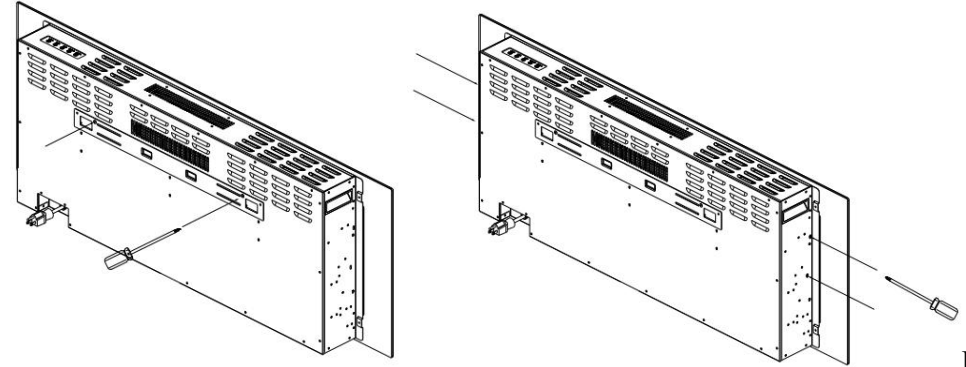

Fig.2
- For optimum viewing, mark the top four screws (fixing positions on the wall in accordance with the recommended fixing dimension; See Fig.2